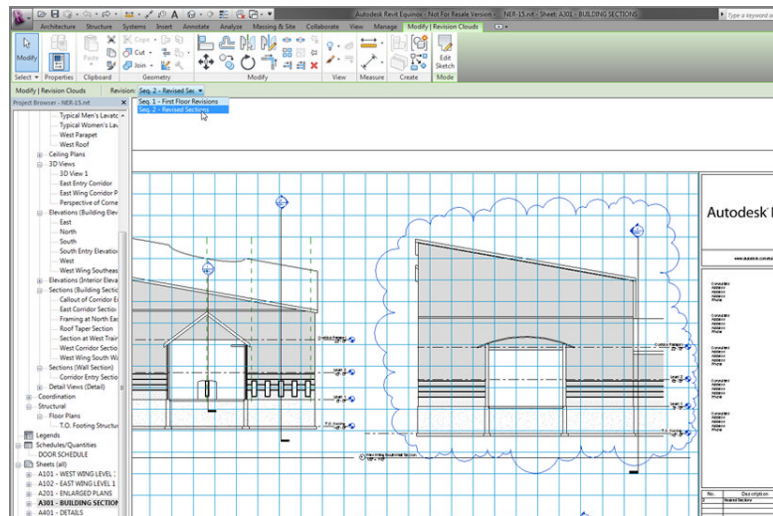

FIGURE 14.19: By selecting the revision cloud, you can specify the sequence from the Options bar.
14. On the Options bar, make sure Seq. 2 - Revised Sections is selected, as shown in Figure 14.19.